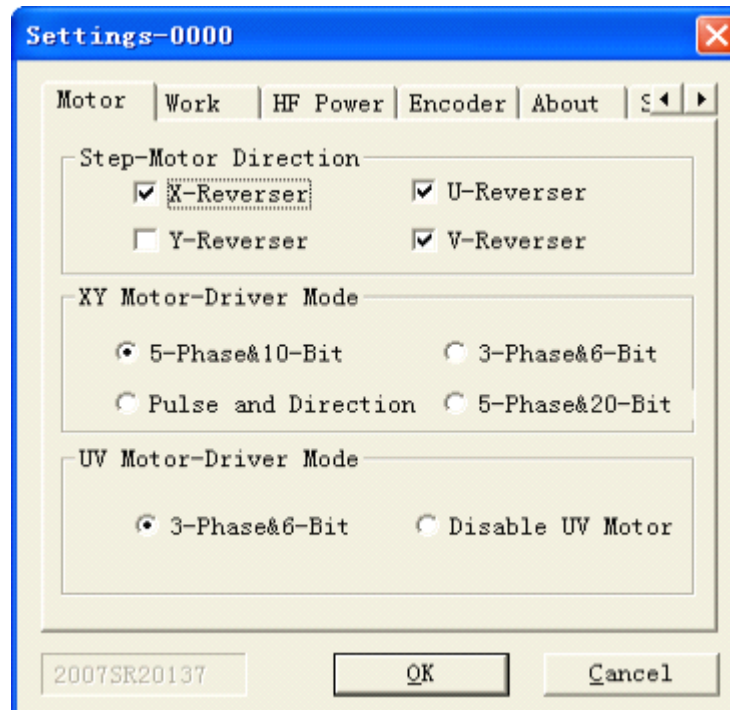

Figure 5.7: Setting-Motor
Settings interface as follows (Figure 5.7): include motion settings, process settings, high-frequency settings, encode settings, startup picture settings and system about etc:
- 1) **Motor (Figure 5.7)**